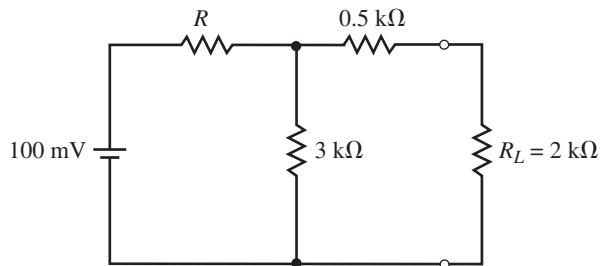

FIGURE 9–100
41. a. For the circuit of Figure 9–101, determine the values of R_1 and R_2 so that the 32-kΩ load receives maximum power.